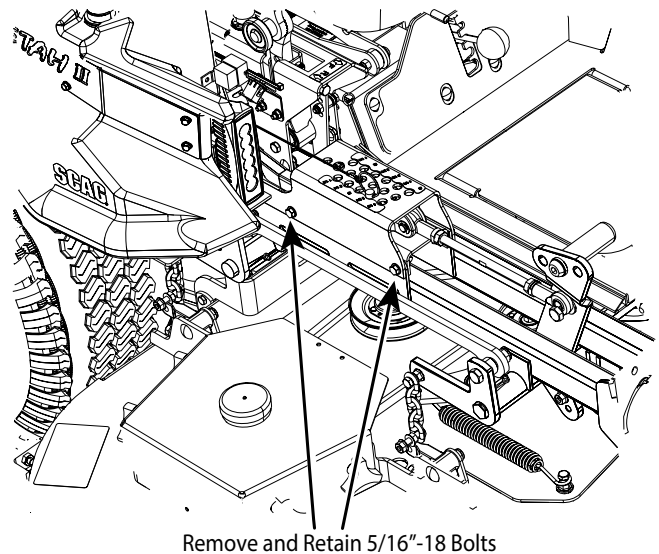

Figure 3-37. STCII Hardware Removal
- Using a cable tie, retain the wires from the RF control module to the hole in the RF control module guard. See Figure 3-37.
- Locate the "A" terminal on the key switch and install the green wire from the E-OCDC harness to the key switch. See Figure 3-37.
- Plug the E-OCDC main wire harness into the RF control module. DO NOT plug the E-OCDC motor harness into the RF control module at this time, this may cause movement of the linkages. See Figure 3-37.